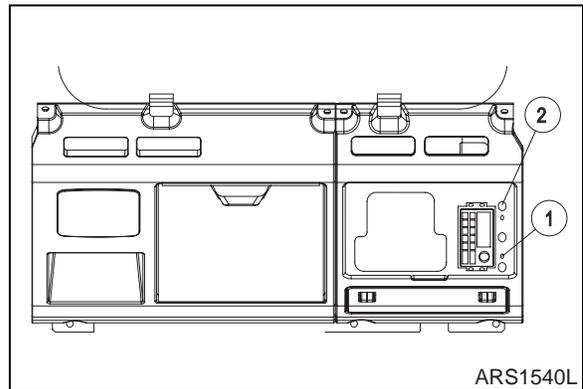

Figure 5
18. Remove cover (5, Figure 4) on left side dash cover (3) and bolts (1, Figure 5).
21. Remove three bolts (2, Figure 5) after disconnect speaker wire and antenna wire. Remove stereo assembly.